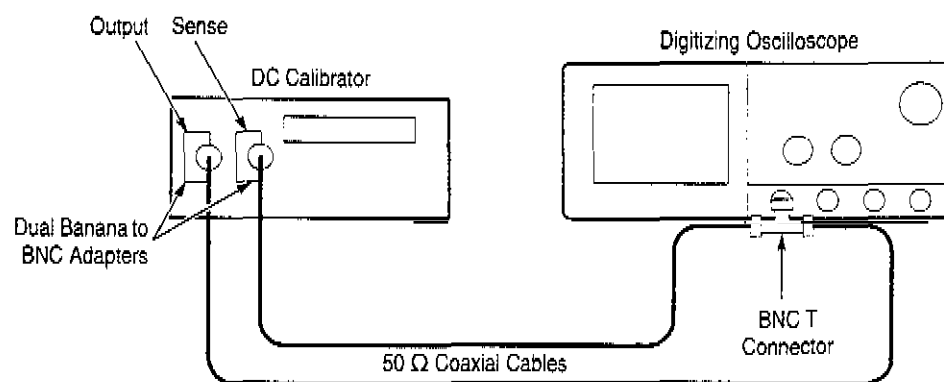

Figure 1-5: Initial Test Hookup
- Connect the output of a DC calibration generator through a dual-banana connector followed by a 50 Ω precision coaxial cable to one side of a BNC T connector. See Figure 1-5.
- Connect the Sense output of the generator through a second dual-banana connector followed by a 50 Ω precision coaxial cable to the other side of the BNC T connector. Now connect the BNC T connector to CH 1. See Figure 1-5.